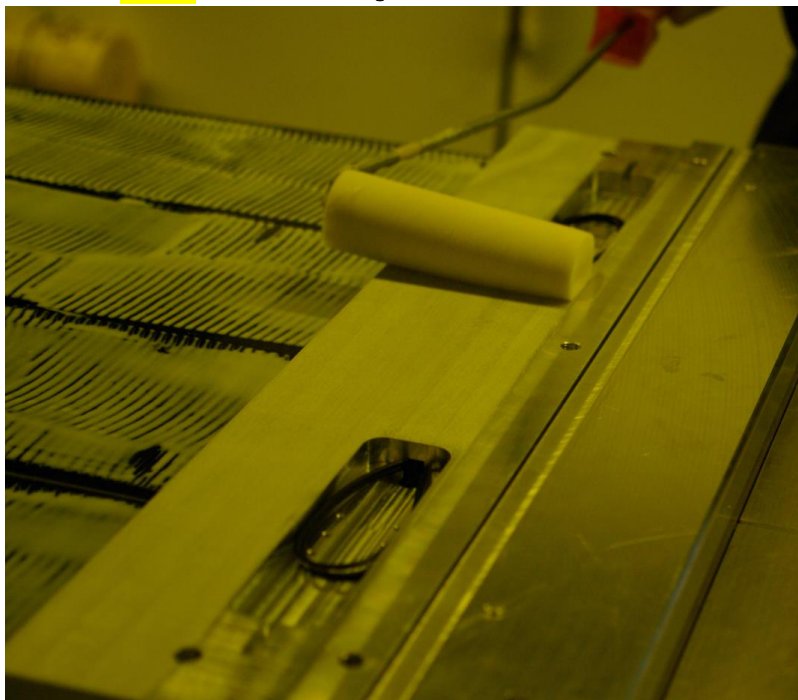

Figure 46 Glue on endplug “HE_LHCB_SCIFI_PAN_908200_A_0_EndPlugLI-LI-BAR”
5.1.4.10 With the roller apply glue to the gluing surface of the endplug “HE_LHCB_SCIFI_PAN_908200_A_0_EndPlugLI-LI-BAR” as shown in Figure 46